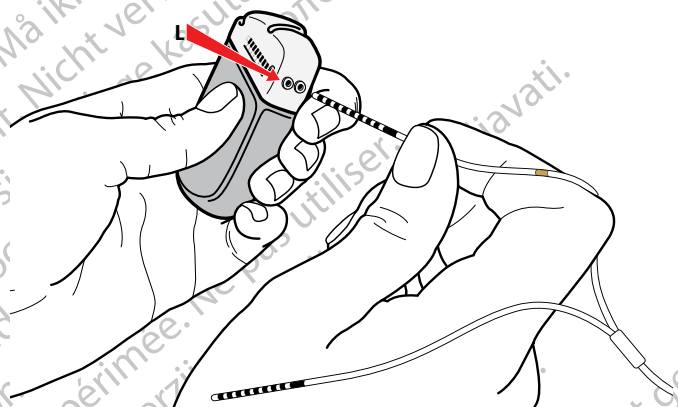

Figure 35. Connection to IPG Port L
- a. Connect the left hemisphere Extension tail with the gold marker band to port L (or C) (Figure 35).